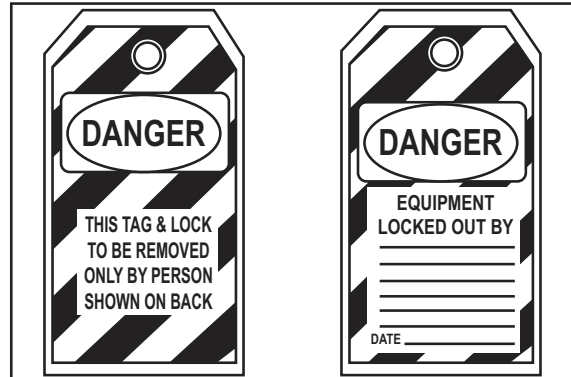

Figure 2-1: Lockout Tag
2. Put a lock with a lockout tag or a tagout tag (see Figure 2-1 and Figure 2-2) through the door to the source of the power